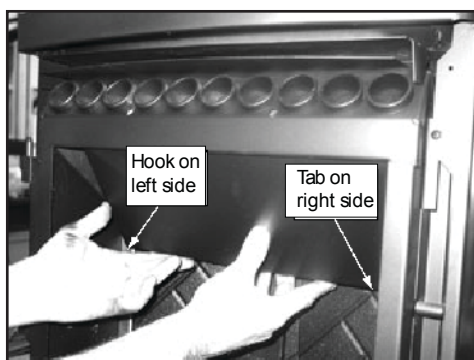

Figure 20.1
2. The top baffle has a hook on the bottom left side that rests on the top lip of the cast brick. There is a tab on the bottom right side that hooks into the side bracket. Remove the top baffle by first pulling the baffle forward until back edge drops down. Then slide baffle back until the front edge clears the shelf that it had been resting on. **Figure 20.1.**